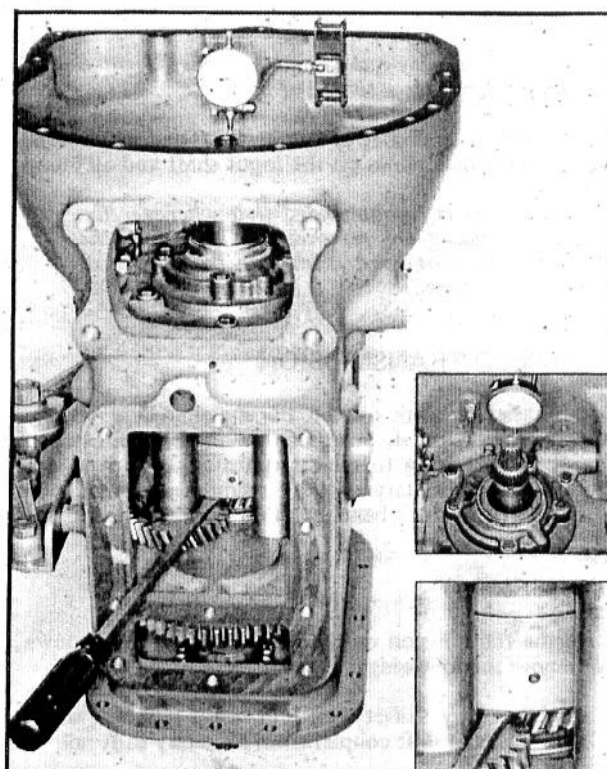

Fig. 54 — Checking Clutch Pack End-Play
11. Using a pry, check the end-play of the clutch pack input shaft with a dial indicator, as shown in Fig. 54.